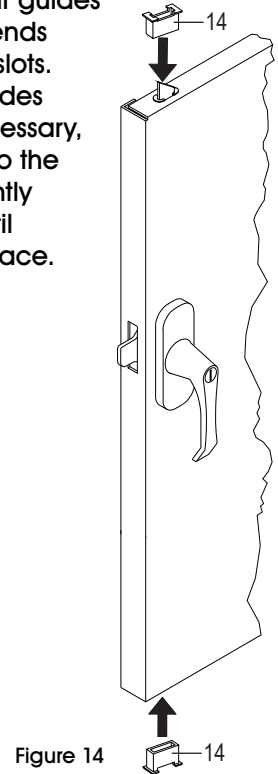

Figure 14
4. Slide the nylon lock bar guides (14) over the lock bar ends and through the door slots. Push firmly until the guides snap into place. If necessary, turn the handle back to the open position and gently tap with a hammer until the guides slide into place. (See Figure 14)